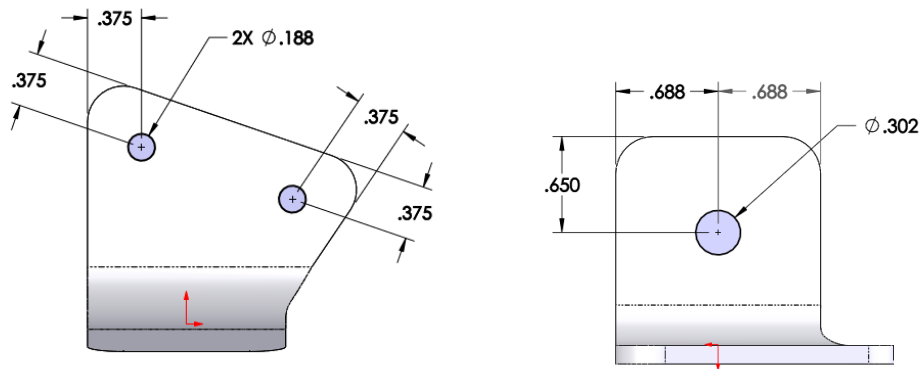

Figure 4 – Bracket Prep (SC29103-001/-002)
- Locate the SC29103-001/-002 brackets. If they do not already have pilot holes, measure and drill $\varnothing.188$ and $\varnothing.302$ holes as shown in Figure 4.